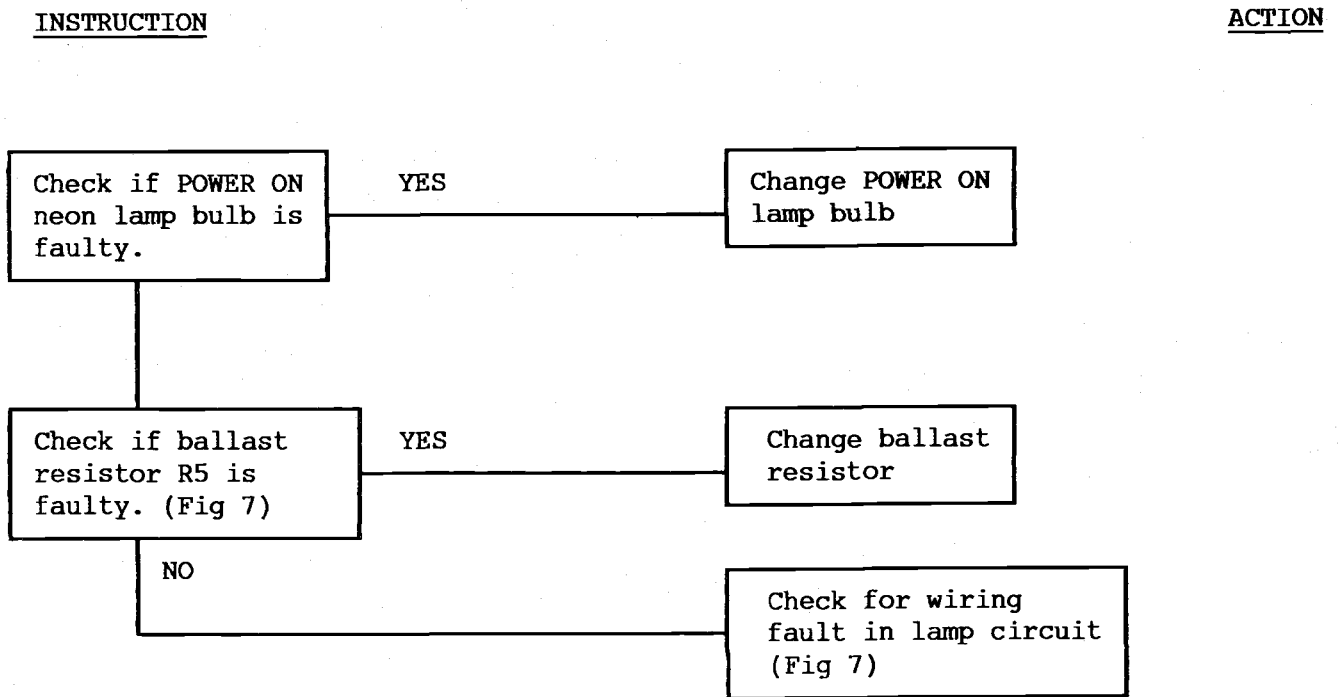

Fig 5 POWER ON Lamp Circuit - Diagnostic Flowchart 1
9. Follow Fig 5 flow chart and refer to Fig 7. For disassembly instructions refer to AESP 6115-G-350-522.